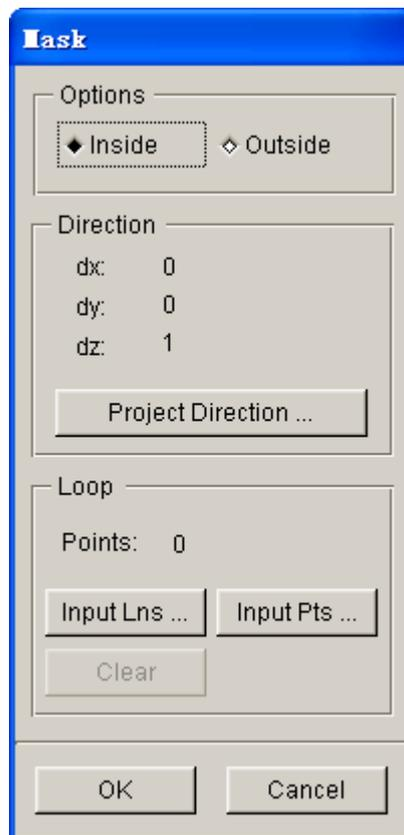

Figure 7.49 Internal pressure definition
14. The MASK dialog box illustrated in Figure 7.49 is displayed. Verify the **Inside** option is selected. In addition, the direction of projection is in positive **dz**.